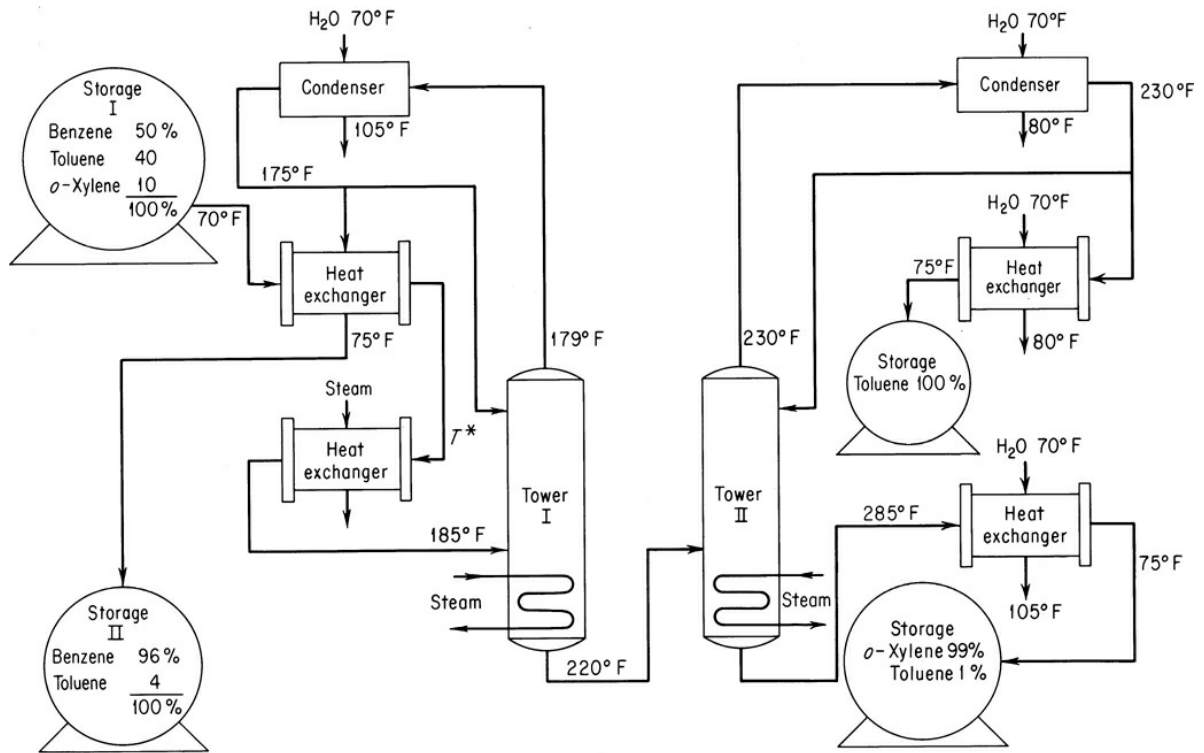

Figure P14.9
14.9 One hundred thousand pounds of a mixture of 50% benzene, 40% toluene, and 10% *o*-xylene is separated every day in a distillation-fractionation plant as shown on the flowsheet for Figure P14.9.